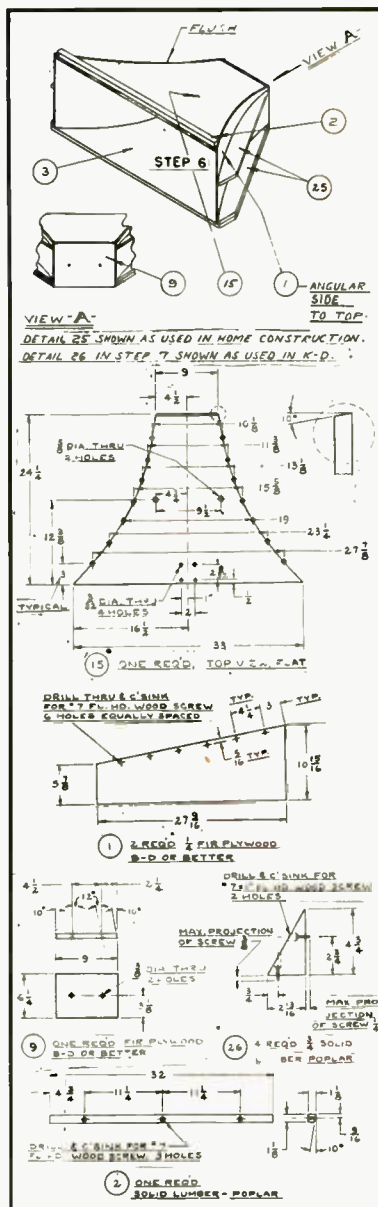

Fig. 3. Wood parts and assembly for the diffraction horn assembly which tops the low-frequency section.
Step 6 is the mid-bass diffraction horn assembly, with its parts shown in details 1, 2, 3, 9, 15, and 25, Fig. 3.
To ready the mid-bass diffraction horn sub-assembly for its place atop the 115 K horn housing, assemble parts 1, 2, 9, and 15 as in Fig. 3. Scribe a line on the angular side of 1, about $\frac{3}{8}$ -inch in from the narrow end. Glue and nail 2 and 15, then glue and nail 1 and 15, with the scribed line flush with the narrow end of 15. And when you have glued and nailed 9, this assembly is complete.